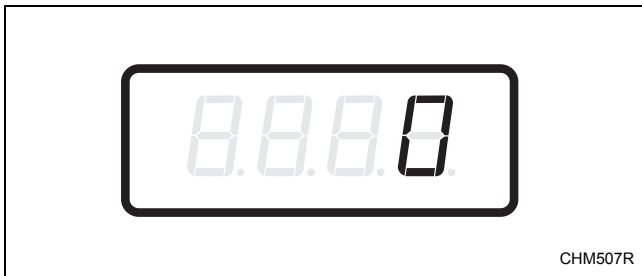

Figure 27
2. When “SA17” appears in the display, press the START (enter) keypad. There are five digits in the Special Vend A Delicates Hot Vend Price. The fifth digit will appear in the display and will flash one (1) second on and one (1) second off. Refer to *Figure 27*.